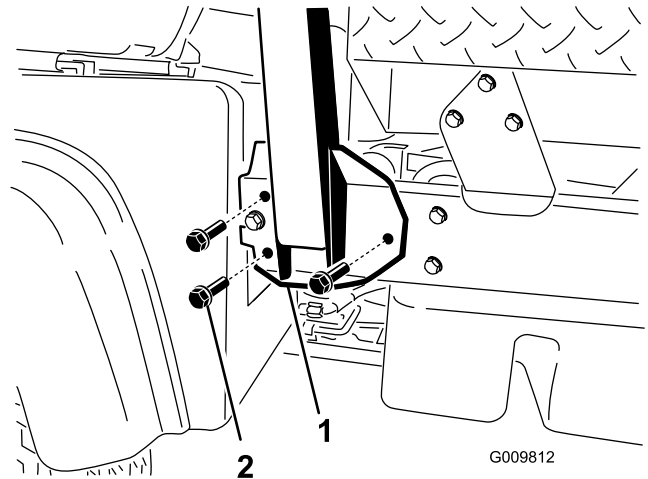

Figure 6
2. Align each side of the roll bar with the mounting holes on each side of the machine frame (Figure 6).
3. Secure the roll bar mounting bracket to the machine frame using 3 flange-head bolts (1/2 x 1-1/4 inches) on each side (Figure 6).